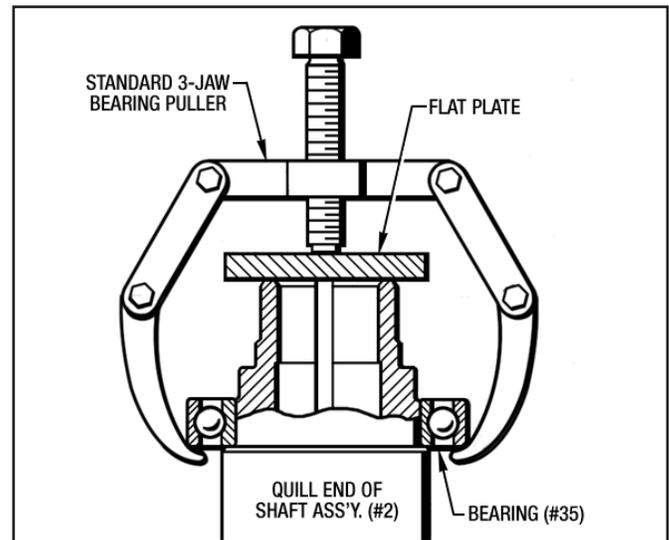

Figure 7.4 - Removing Bearing (#35)
6. Pull the Bearing (#35) off the Shaft Assembly (#2) with a standard 3-Jaw Bearing Puller and flat plate as shown in *Figure 7.4*.